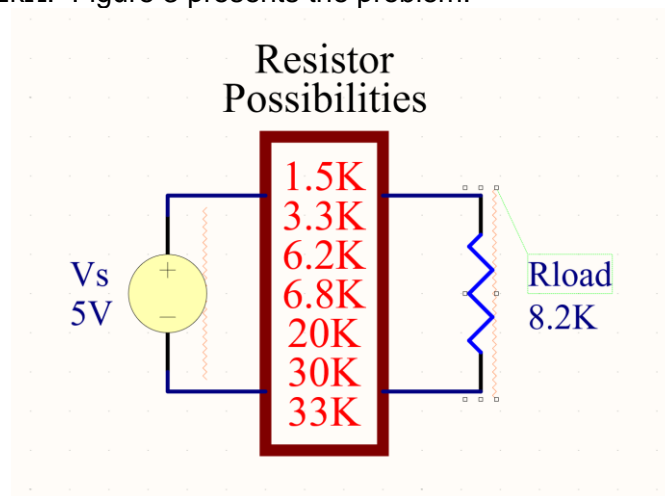

Figure 3: Circuit Design Schematic for Step 3
- 3) Here is a design problem. Your task is to design a circuit that will deliver 2.0V, or 2.5V, or 3.0V \pm 5% across a load resistor of 8.2k Ω . Figure 3 presents the problem.
The resistors available for use are listed in Fig. 3. There are design constraints as with most engineering design problems. In this case, your component cost must be less than 7 cents. You only need to pay for the resistors, which cost 2 cents each. The load resistor is free. Assume your time is free but only this one time ;-).